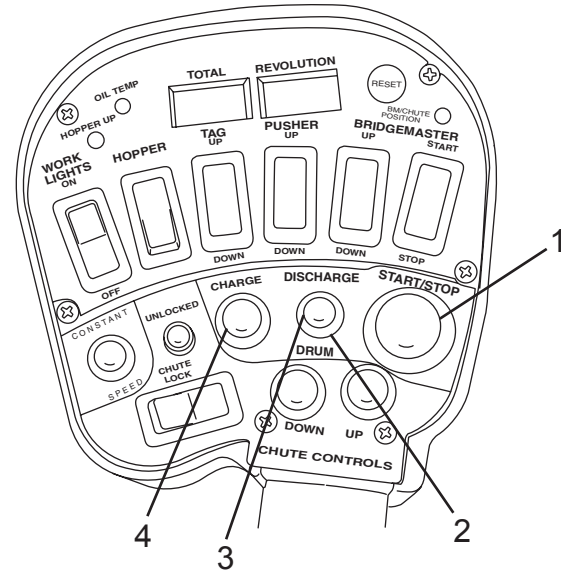

Figure 68
1. Press the START/STOP switch (Figure 68, Item 1) to stop drum rotation. Within 10 seconds, press and hold the CHARGE switch (Figure 68, Item 4) for at least five seconds, then release the CHARGE switch.
2. Press and hold the DISCHARGE switch (Figure 68, Item 3) for at least five seconds, then release the DISCHARGE switch. The DISCHARGE light (Figure 68, Item 2) will flash the fault code or will be lit with no flashing. If the DISCHARGE light is ON and does not flash, there is no fault.